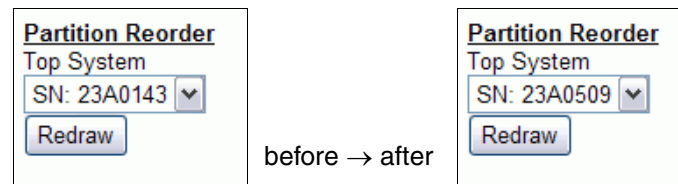

Figure 4-23 RSA II Web interface: Partition Reorder (redrawing)
► Partition Reorder functions redraws the boxes and serial numbers, as shown in the before and after reordering in Figure 4-23.